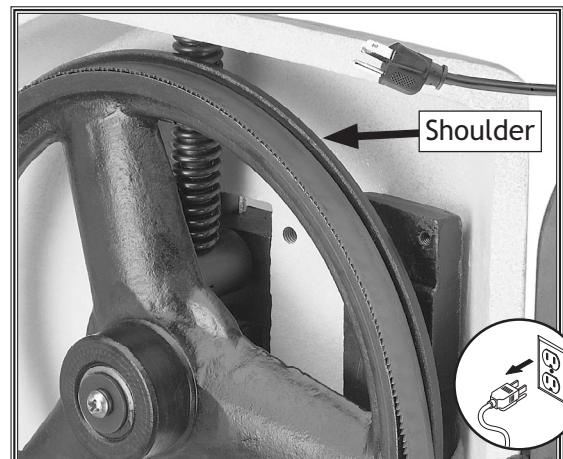

Figure 45. Blade installed on the top wheel.
6. When the blade is around both wheels, adjust the position so the back of the blade is against the shoulder of the wheels (see **Figure 45**).